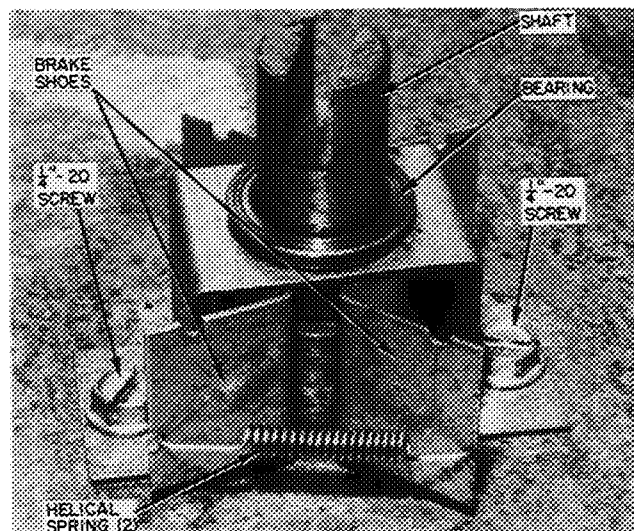

Fig. 11 — Media Tension Brake
**Media Tension Brake** (Fig. 11) — Brake is mounted on bottom panel of supply spool side to provide tension on supply spool at bottom end of spool shaft. Two brake shoes held in place by 2 helical springs cause friction (drag) required for proper media tension. Brake assembly includes supply spool bearing surface and slotted axis shaft. Except for making sure that helical springs and shoes are in tension, no other maintenance is required.